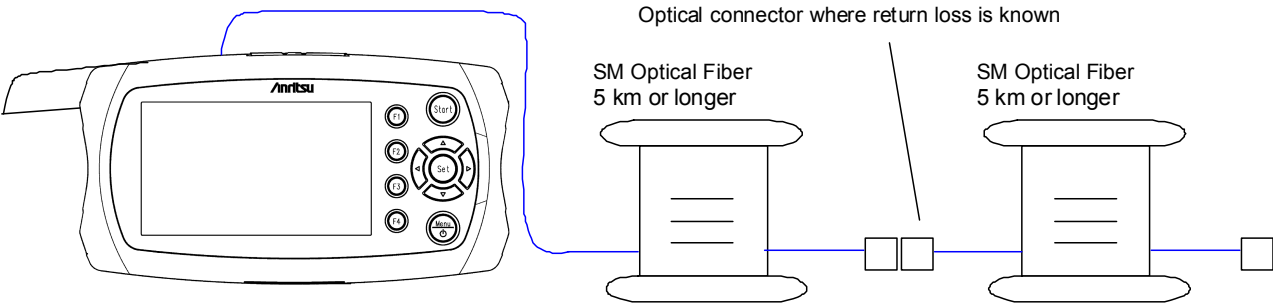

Figure 11.2.1-1 Backscatter Coefficient Level Calibration – Connection Diagram
1. Prepare an optical connector with a known return loss of R_0 dB and connect it with an optical fiber to the main frame as shown in Figure 11.2.1-1.